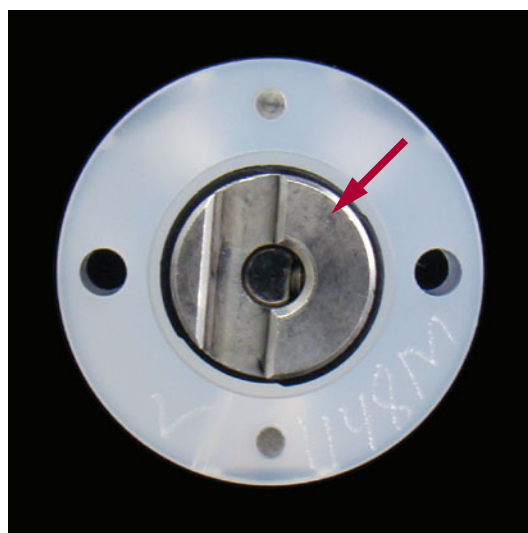

Figure 2. Twist the back of the XP valve to line up with the position of the XP valve removed.
- Look at the orientation of the back of the old XP valve after it is removed from the instrument. Be sure to line up the back of the new XP valve in the same way as the old XP valve (**Figure 2**).